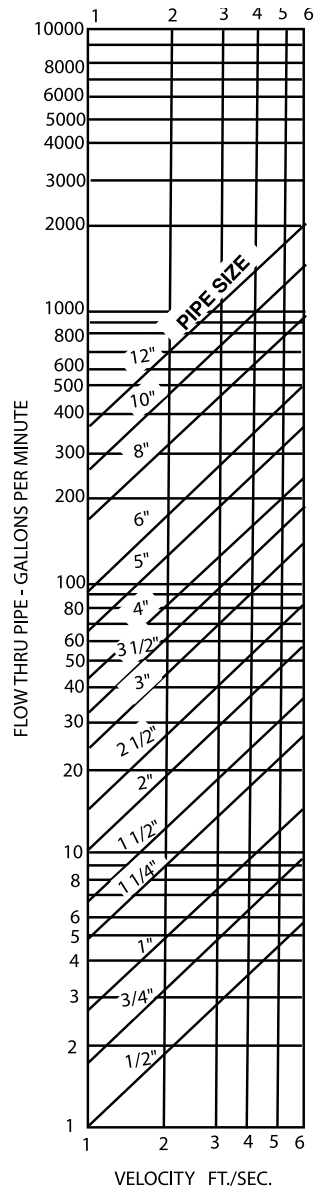

Figure 1
- Determine the system velocity from Figure 1.